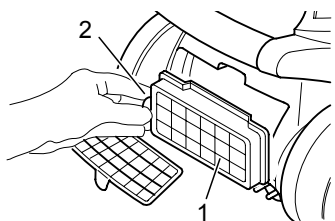

Fig. 25
3. Remove the filter (Fig. 25/1). To do this, press the lock (Fig. 25/2) to the right and pull the filter out to the back.